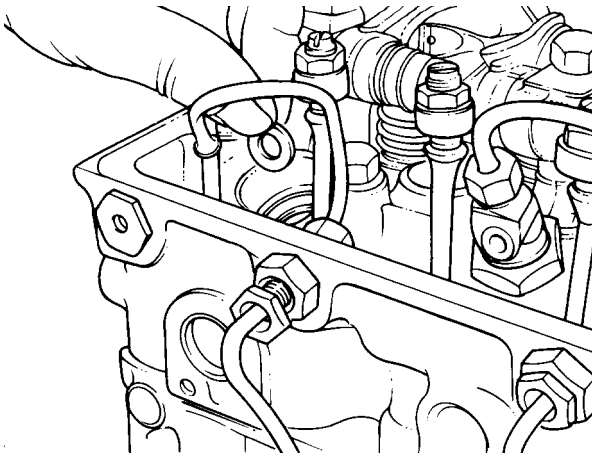

Figure 106 - Spacer Washer - Installation
- c. Install a new spacer washer, of the same thickness as the one removed, in the cylinder head (Fig 106).